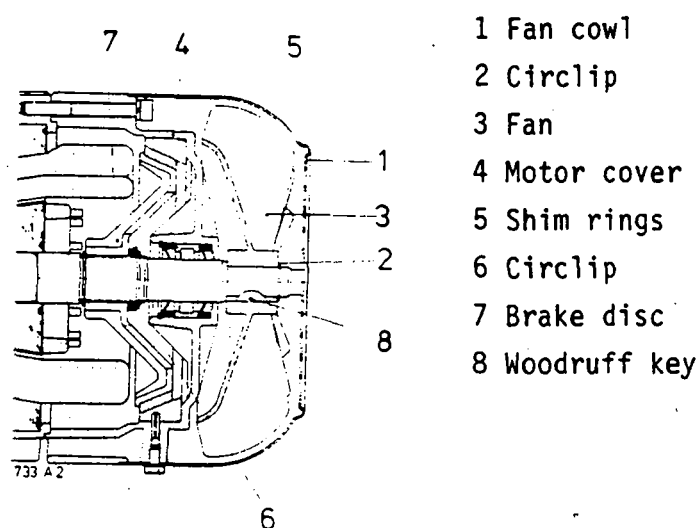

Fig. 1: Hoisting motor
Operation of the brakes, illustrated by a hoisting motor (Fig. 1)
We recommend that normal oil (SAE 20 - 50) be used for lubrication. The oil is poured into the device via the open bottom flap shown in Fig. 1 (5) of Module 2.3.h in a quantity sufficient to penetrate to all bearing points. Good lubrication of the clamping-jaw dogs, crank shaft bearings, spring guide pins and sliding points of the spring guide plates is particularly important. In order to help the oil to penetrate to the clamping-jaw dogs, the control handle (3) shown in Fig. 1 of Module 2.3.h is to be alternately pulled and released when lubricating the two clamping locks. When oiling the crank shaft bearings, the advance lever should be moved. In addition, the lubricating nipple on the crank shaft is to be provided with grease.